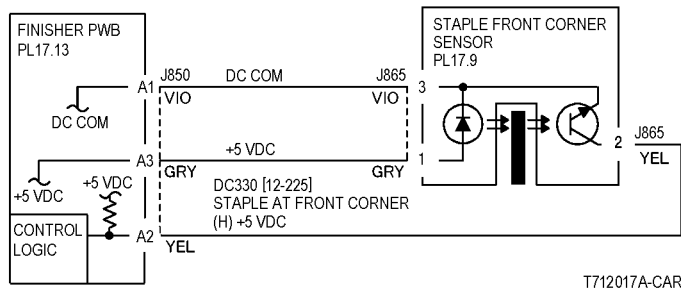

Figure 2 Stapler Front Corner Sensor CD
- Ensure that the connectors shown in the circuit diagrams (Figure 2, Figure 3) are securely connected and that the wires are not damaged.